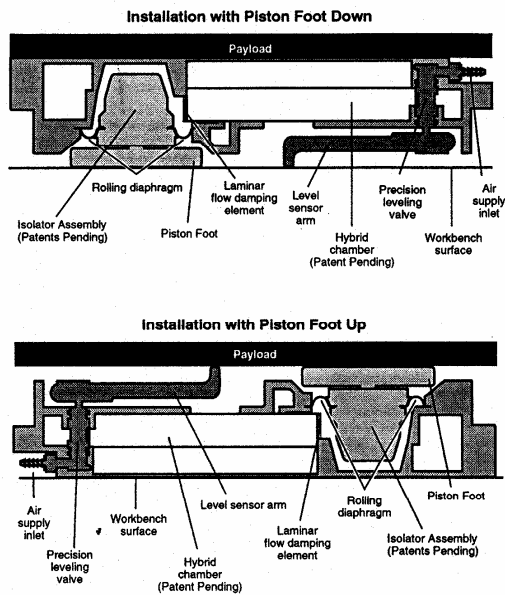

Figure 2a
- The isolator modules may be installed with the piston foot either up or down. (Figure 2a)